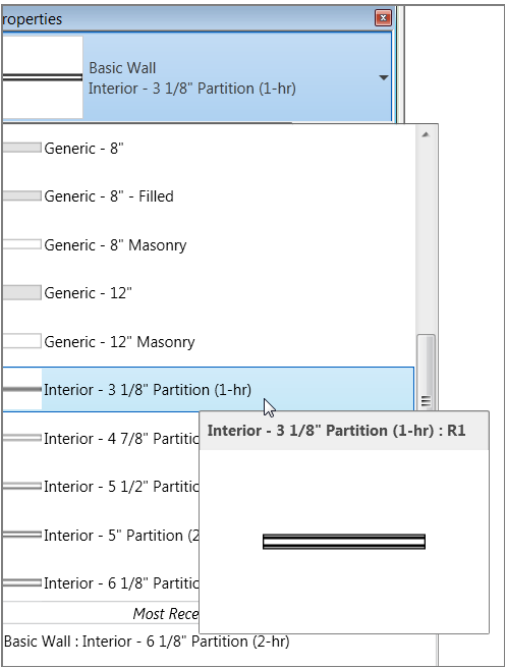

FIGURE 9.24: Basic Wall : Interior - 3 1/8" Partition (1-hr) (79mm)
2. In the Type Selector, select Basic Wall : Interior - 3 1/8" Partition (1-hr) (79mm), as shown in Figure 9.24.